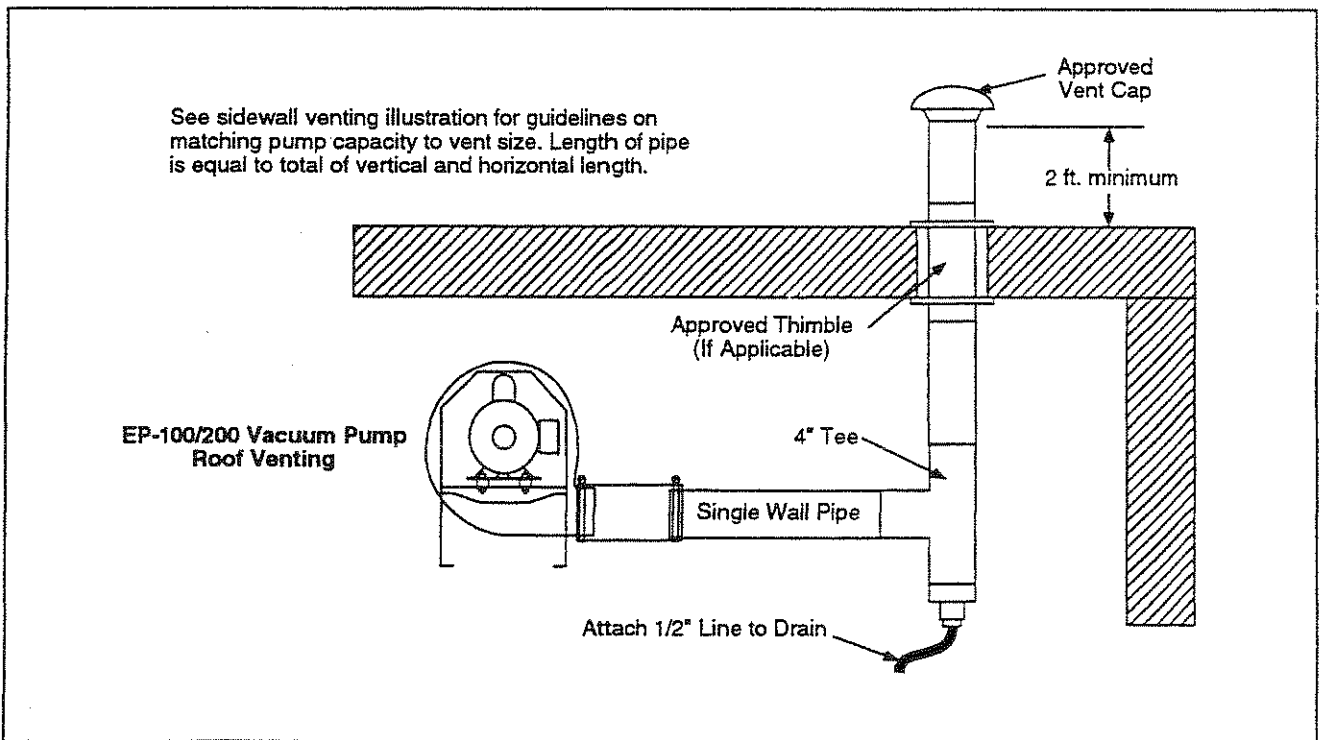

Figure 21. Roof Venting of Vacuum Pump
- Horizontal discharge is preferred. Vertical discharge must be arranged as shown in Figure 21.